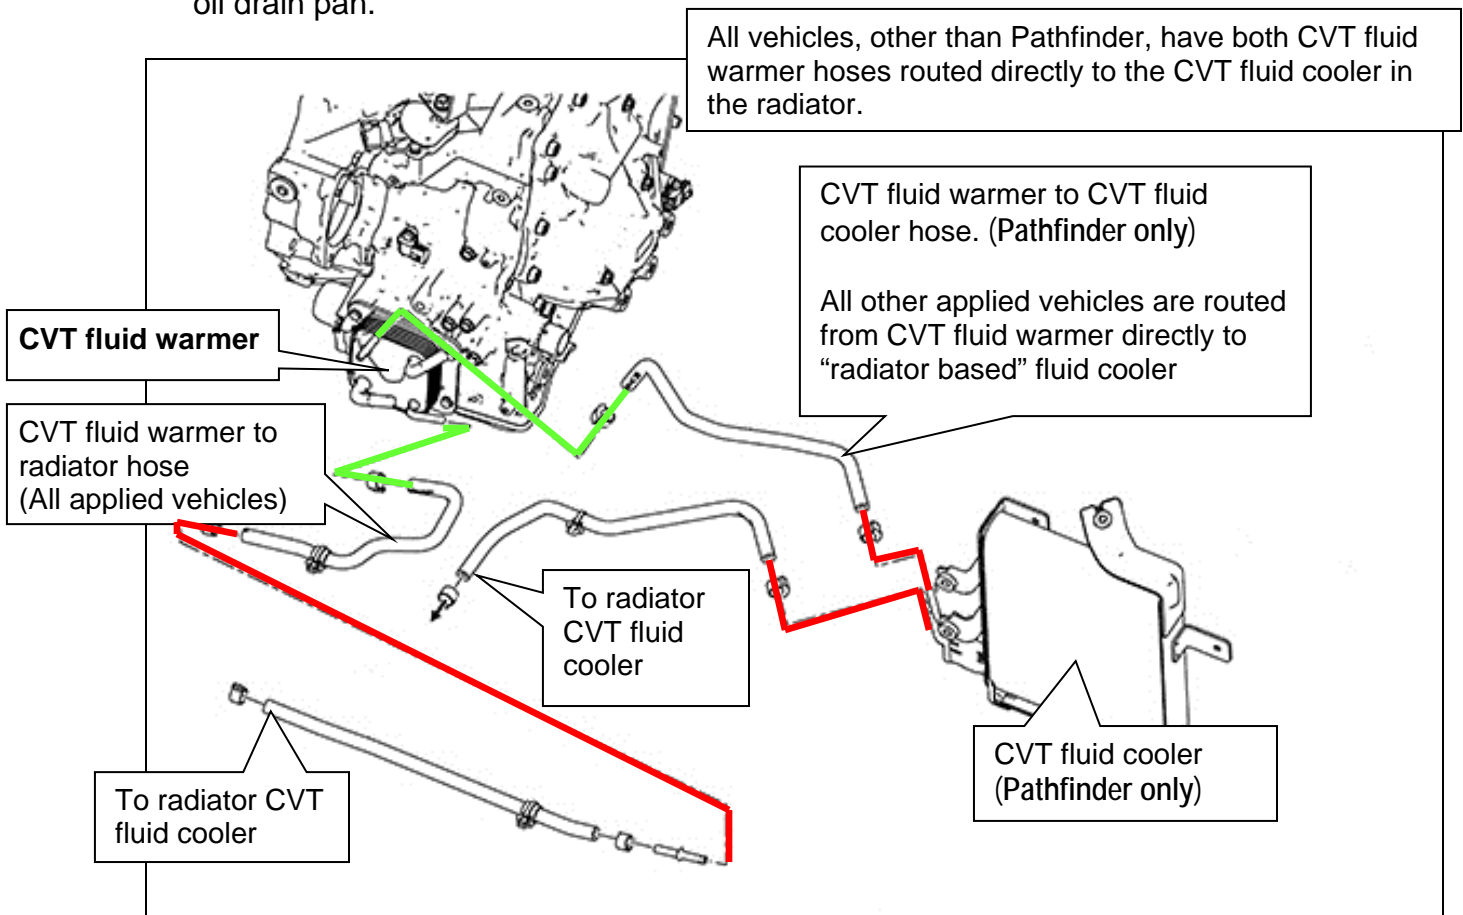

Figure 2
- Disconnect the CVT fluid cooler inlet and outlet rubber hoses from the CVT Fluid warmer (Figure 2) and discard spring clamps.